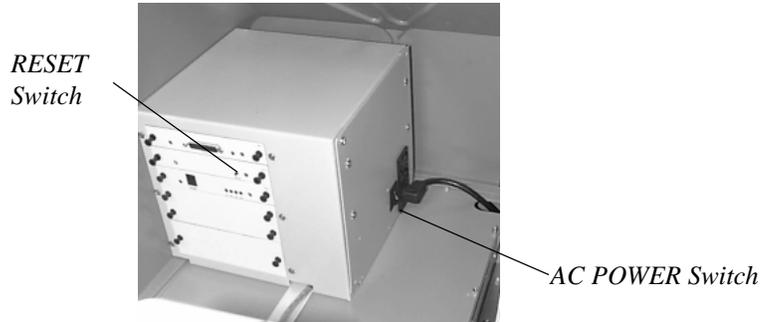

Figure 8-2. The Location of the RESET and AC POWER Switch.
- 1.) Press and then release the RESET Switch (See Figure 8-2).